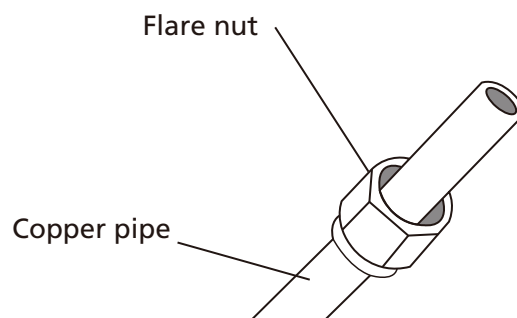

Fig. 5.3
3. Place flare nuts on both ends of pipe. Make sure they are facing in the right direction, because you can't put them on or change their direction after flaring. See **Fig. 5.3**